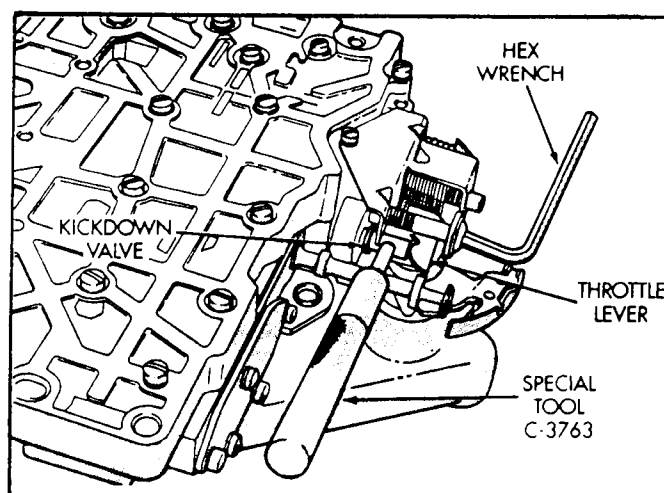

Figure 125
1. Insert gauge C-3763 between the throttle lever cam and the kickdown valve stem as shown in Figure 125.
5. The kickdown valve spring must be fully compressed and the kickdown valve completely bottomed to obtain the correct adjustment (See Figure 125).